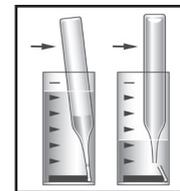

Figure 3
4. Place the Vacu-vial ampoule, tip first, into the sample cup. Snap the tip. The ampoule will fill leaving a bubble for mixing (fig. 3).
7. Insert the Vacu-vial ampoule into the photometer, flat end first, and obtain a reading in ppm (mg/Liter) cyanide (CN).